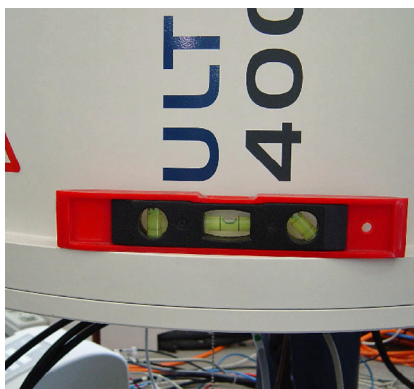

Figure 4.13: Mounting and leveling the pillars – step 5
12. Adjust the two inner base plates (1) of each pillar.
14. Check the leveling of the cryostat (see Figure 4.13).
15. Lower the outer base plate (1) until the torque is the same on all three screws of one pillar.
19. Check the leveling of the magnet system again (see step 9 and 10 in Figure 4.13) Repeat the leveling of the pillars, if necessary.